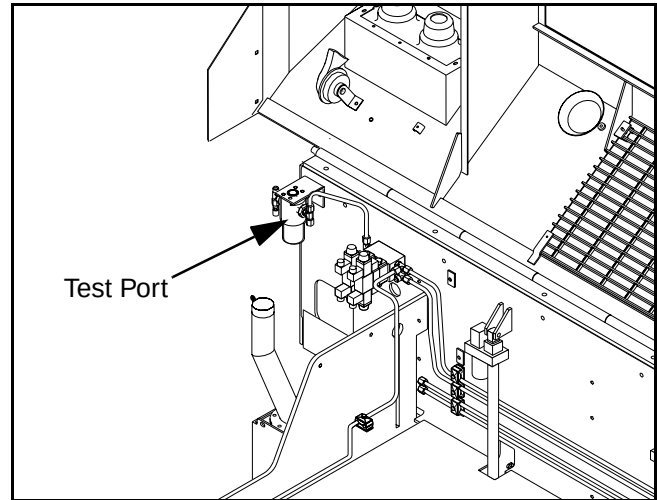

Figure 5 - 38 Auxiliary Pressure Test Port
- 1) Install a pressure gauge (3000 psi) at the auxiliary pump filter test port. (Figure 5 - 38)